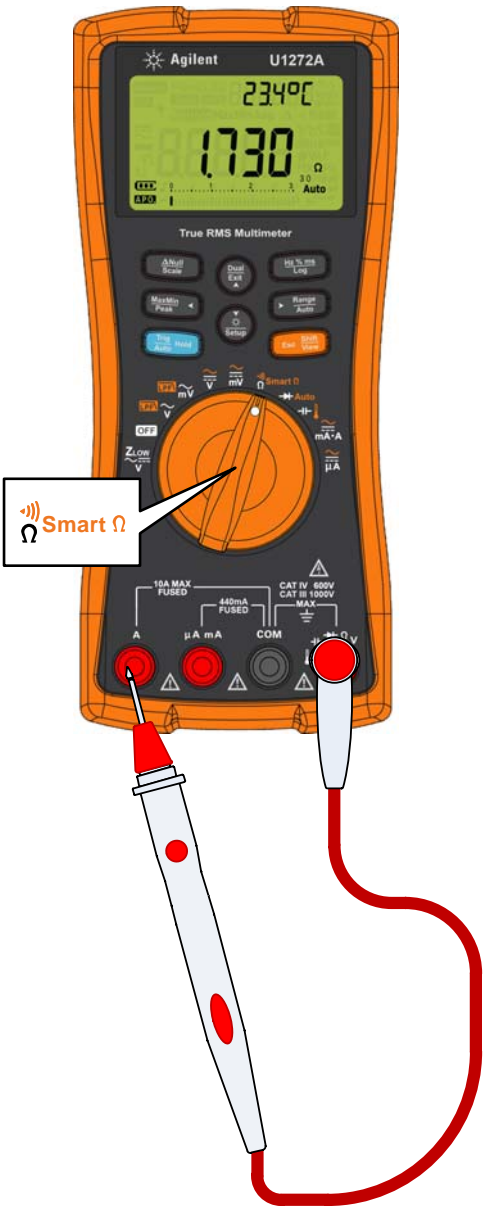

Figure 2-2 Testing Fuse 2
- 3 To test Fuse 2, place and touch the tip of the test probe on the left half of **A** input terminal. Ensure that the probe tip touches the metal inside the **A** input terminal, as shown in Figure 2-2.